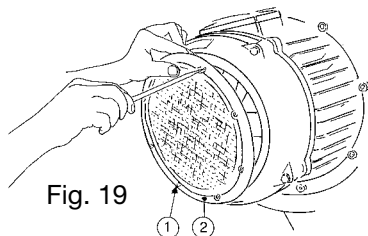
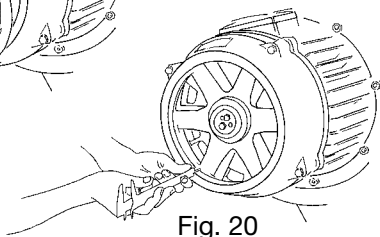
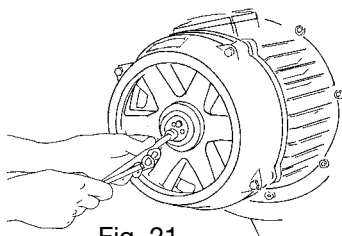
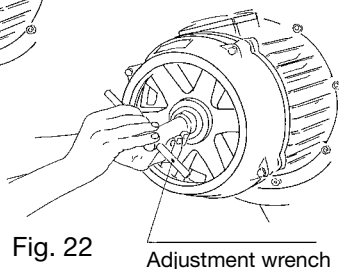

Fig. 19
Fig. 20
Fig. 21
Fig. 22
Loosen the screws pos. 1, remove the grid pos. 2, (Fig. 19); with the brake applied, measure at any point between the brake fan (Fig. 20) and the surface of the bell. After this measurement, axially push the fan inside the motor with the aid of a lever and make another measurement, recording the difference (Fig. 20). If the difference is greater than the rated values (0,8/1,2 mm) proceed as follows:
- loosen the screw (Fig. 21) and then turn the adjusting ring nut clockwise to take up any axial shifting greater than the rated value, bearing in mind that one complete turn of the ring nut corresponds to 2 mm (Fig. 22). After this take up operation, repeat the measurement with the brake released (Fig. 20), checking that the axial shifting is within the rated value, then put back the screws and the grid in their positions (Fig. 19).